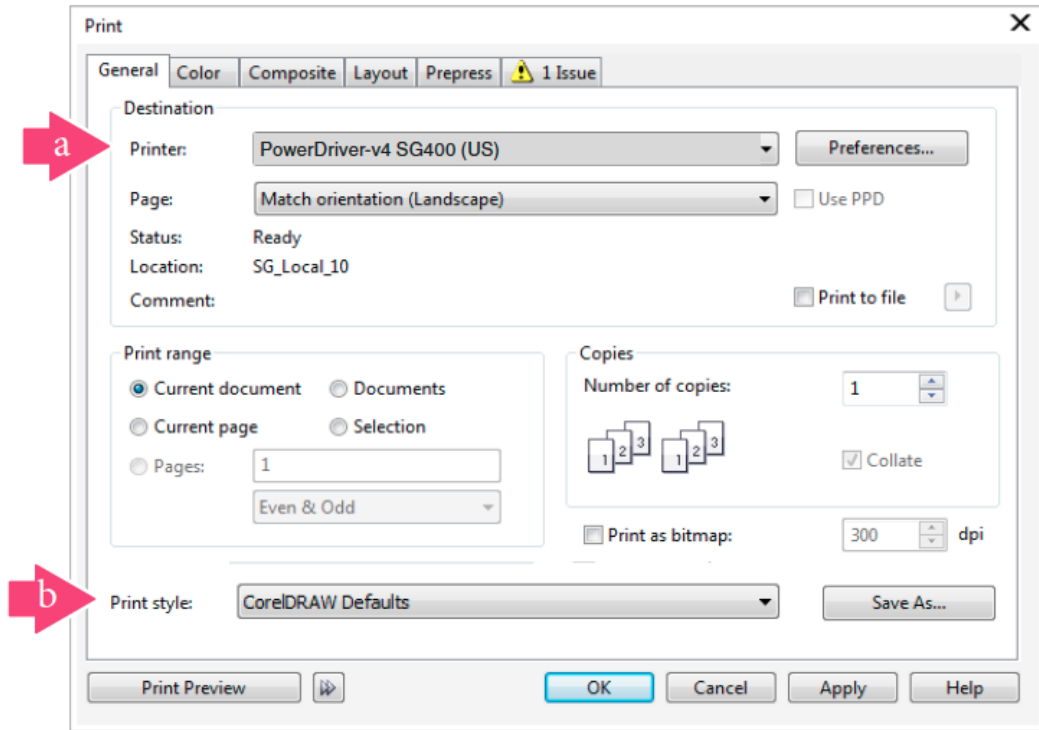

FIGURE 7
7. After opening or importing an image with the correct color settings entered, you are now ready to print. In the Menu Bar, click **File > Print**. In the Print window, match your settings to the ones below. See Figure 7.